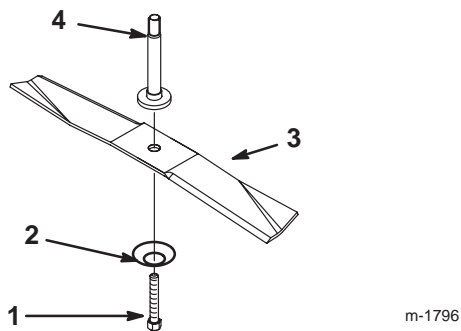

Figure 34
3. Remove the bolt, curved washer, and blade (Fig. 34). A block of wood may be wedged between the blade and the mower to lock the blade when you are removing the bolt.
1. Install the blade, curved washer (cupped side toward blade), and bolt (Fig. 34).